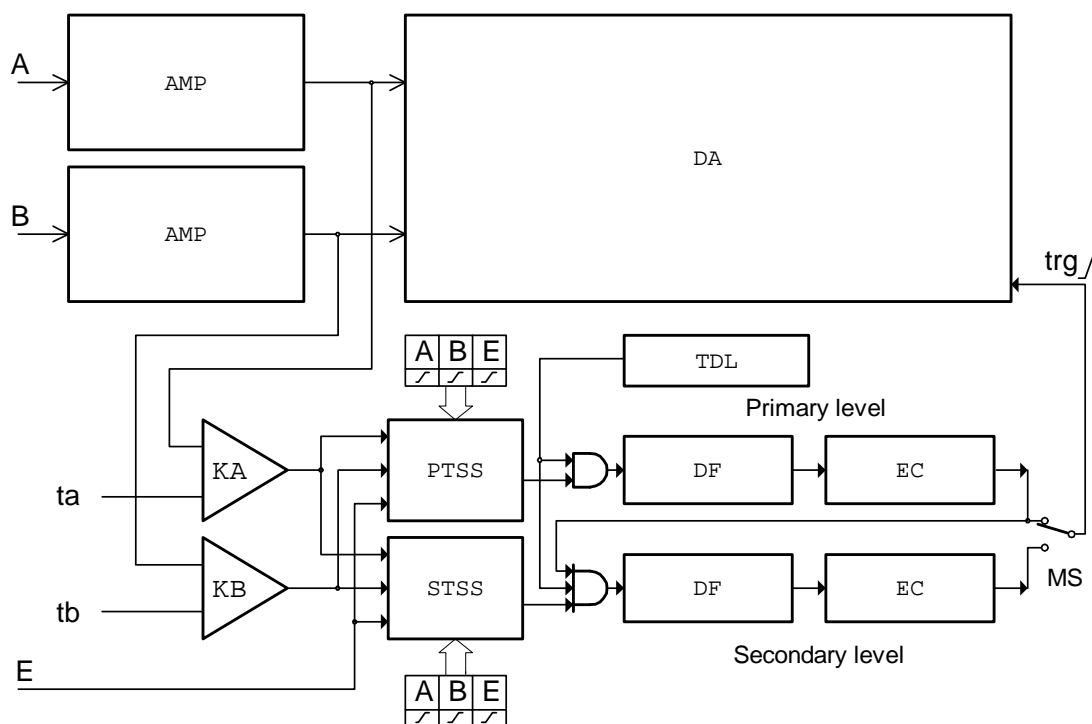

Fig. 2.1.2.1. – Block schematics of trigger circuits
The block schematics of the dual level trigger circuits are shown in figure 2.1.2.1.
the input signal. The trigger event is generated with respect to a change of the selector (PTSS, STSS) output signal from 0 (FALSE) to 1 (TRUE). A constant level of the signal cannot start the measurement. In the case that only one of the signals is selected the trigger event is generated corresponding to the polarity, which is symbolically presented by the direction of change of the signal. (0 to 1 means no inversion). When there are several inputs selected, the selector makes a logical addition (OR) of all of the selected inputs. Before adding the signals together, ones are adjusted with respect to the polarity settings. A trigger event is generated only when the change of result of the logical addition occurred from 0 to 1 (FALSE to TRUE). Logical values of the signals in the input of logical adder (OR) from which the trigger event is generated are created on the basis of following rules: value 0 (FALSE) is the value that the selector input signal should have before a valid trigger event. 1 (TRUE) is the value that this signal will have after the valid trigger event. For example, if triggering from Channel A is set to the trailing edge, then the output voltage of the channel is higher than the threshold voltage, consequently the value on the adder input will be 0 (FALSE). Inverse situation will be taken as 1 (TRUE). Note that when using logical addition, all values must be 0 (FALSE) in order for the result to be 0 (FALSE). It is relatively easy to find out which are the valid trigger events. Figure 2.1.2.2 shows several valid and invalid trigger events (all inputs are enabled).